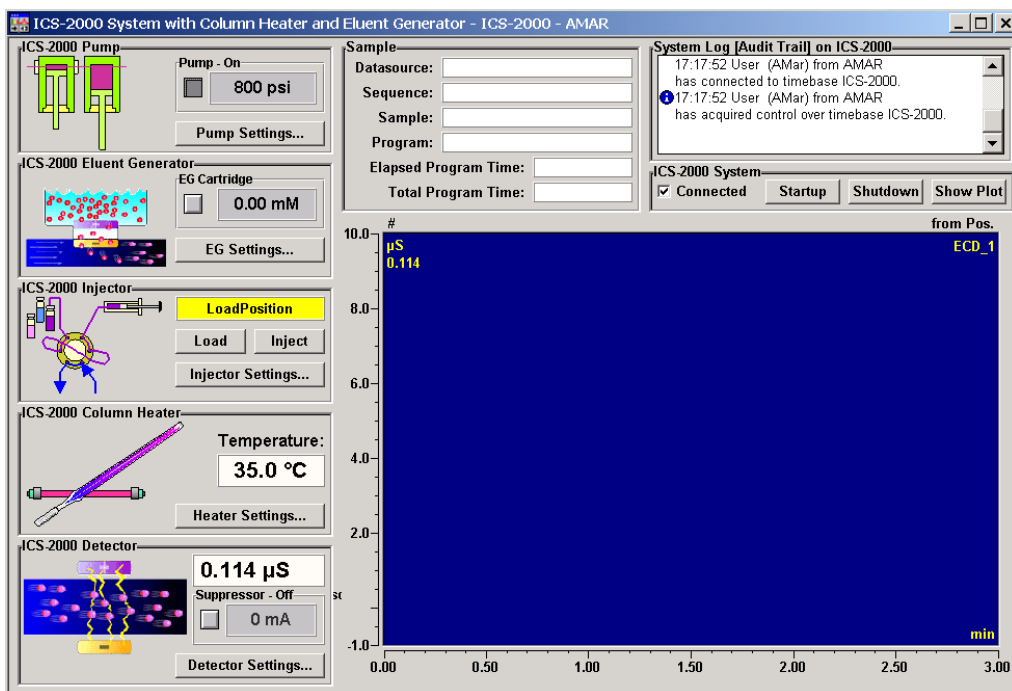

Figure 56. ICS-2000 System Control Panel Example
- Double-click the .pan file to open the Control Panel for your system (see the example in Figure 56).